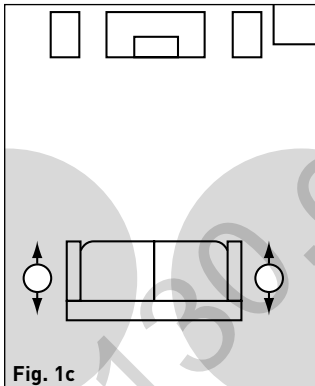

Fig. 1c
5.1 Surround Placement Using Two P80-SM Speakers (Fig. 1c)